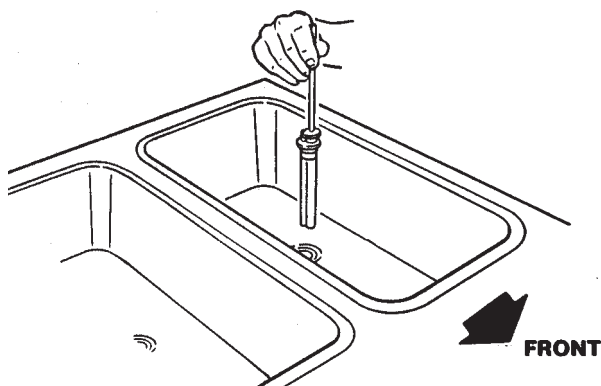

Figure 10. Mix Inlet Regulator
- A. Push the mix inlet regulator fully into the hopper (Fig. 10).